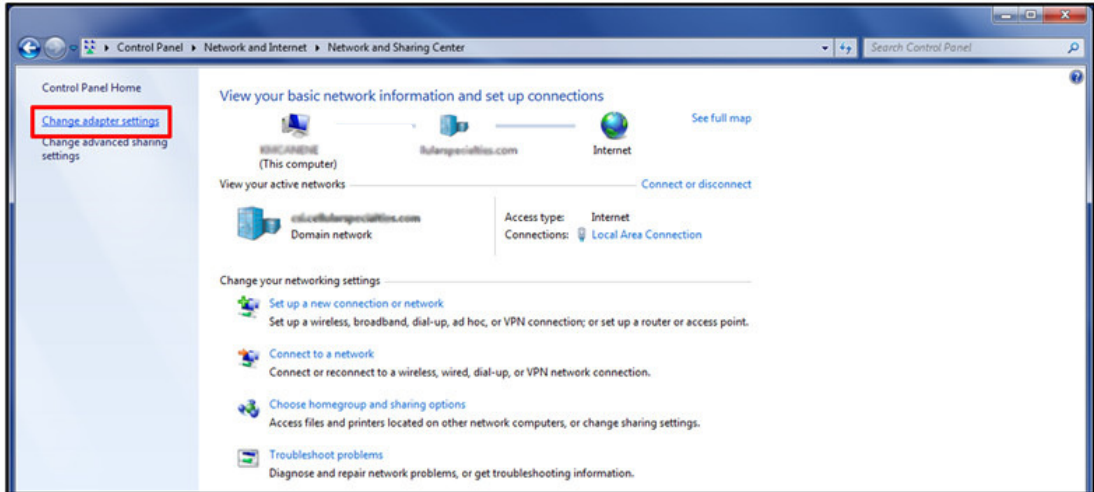

Figure 4-16: Change Adapter Settings
3. On the left side, click **Change adapter settings** as shown in Figure 4-16.